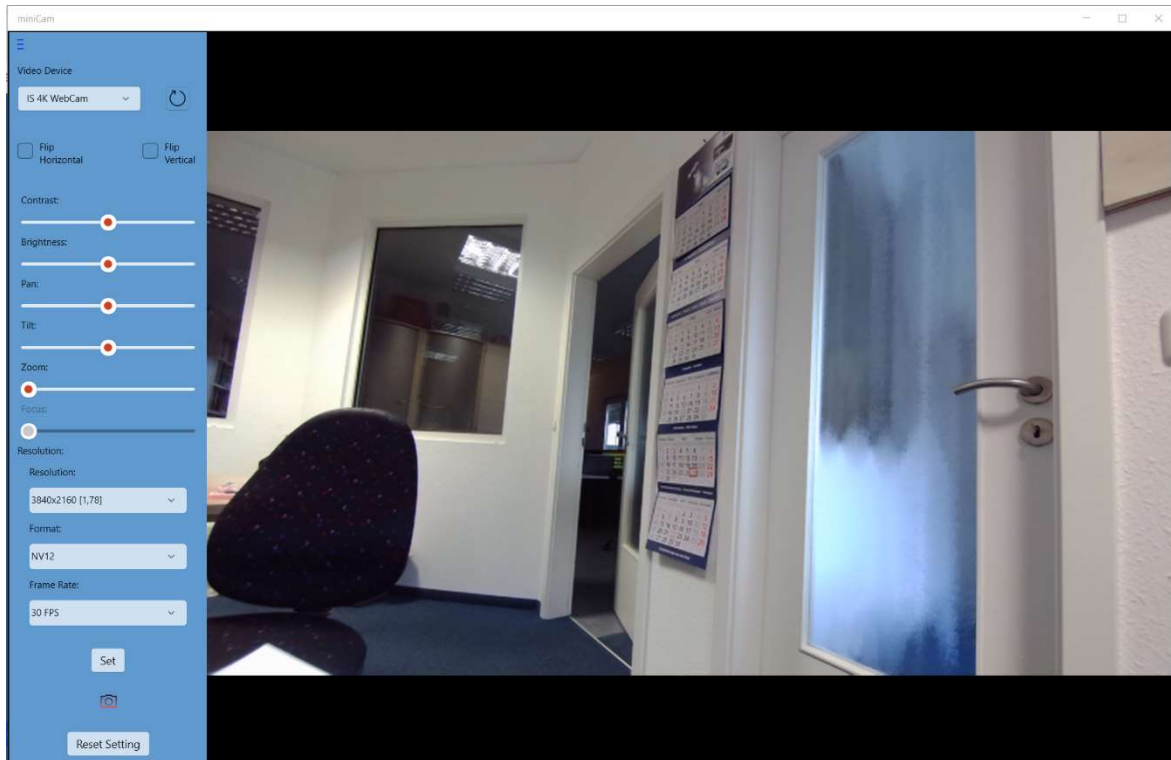

Figure 7: Software demonstration of the AVT miniCam for different settings
10. This section shows the image recorded by the 4K-miniCam under current settings. If the button indicated in figure 7 by the number 1 is pressed that this section fills the entire window.